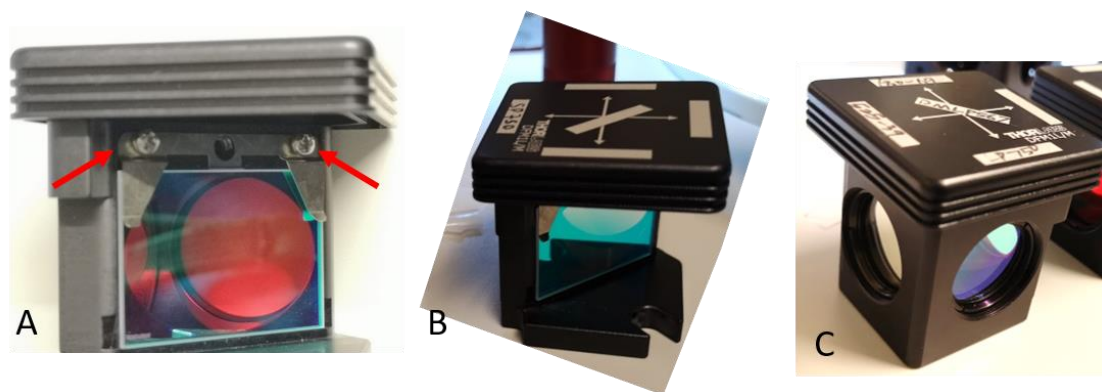

Figure 12: Kinematic cage mounting steps for assembling the dichroic mirror inside the removeable cube top (A-B) and filters on the side ports (C)
Step41. Untighten the top two screws with a Phillips #00 screwdriver to loosen the leaf spring and slide the dichroic mirror (item 38) under the clamps (see arrows in Fig.12-A). Place the coated side of the mirror facing the direction from where the laser beam comes from. Tighten the screws enough to hold without breaking the mirror (see Fig.12-B).
Step42. Mount back the other half of the cage and prepare the filters to assemble on the next steps (see Fig.12-C)